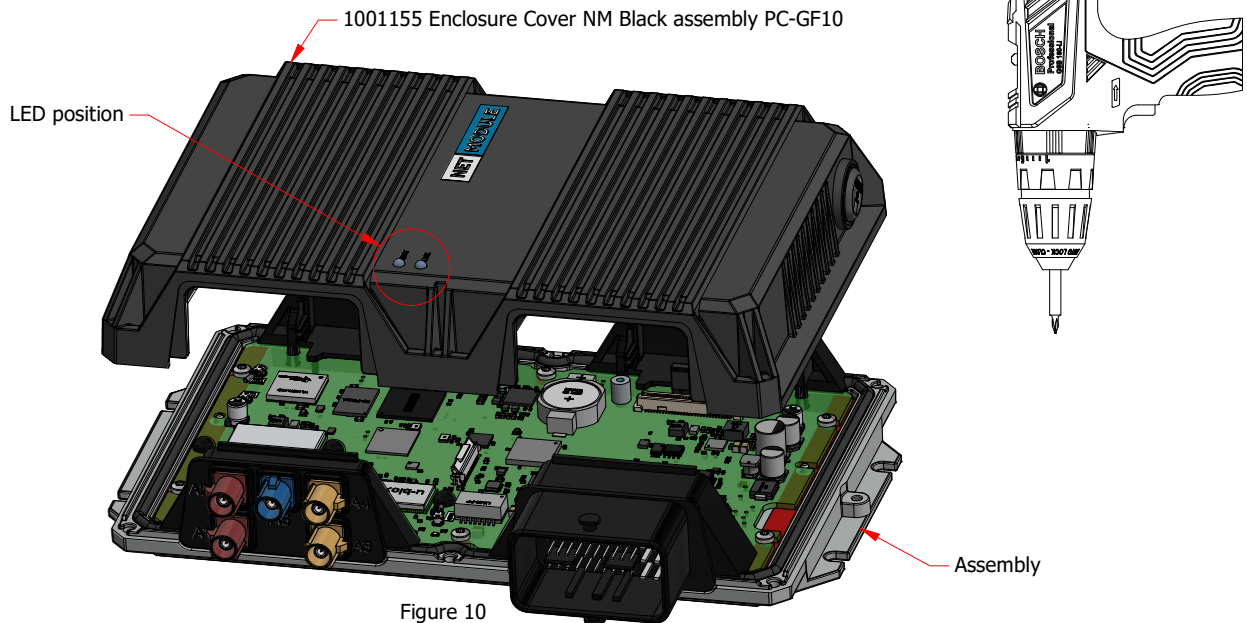

Figure 10
- 5.1 Place the cover over the assembly (Figure 10)